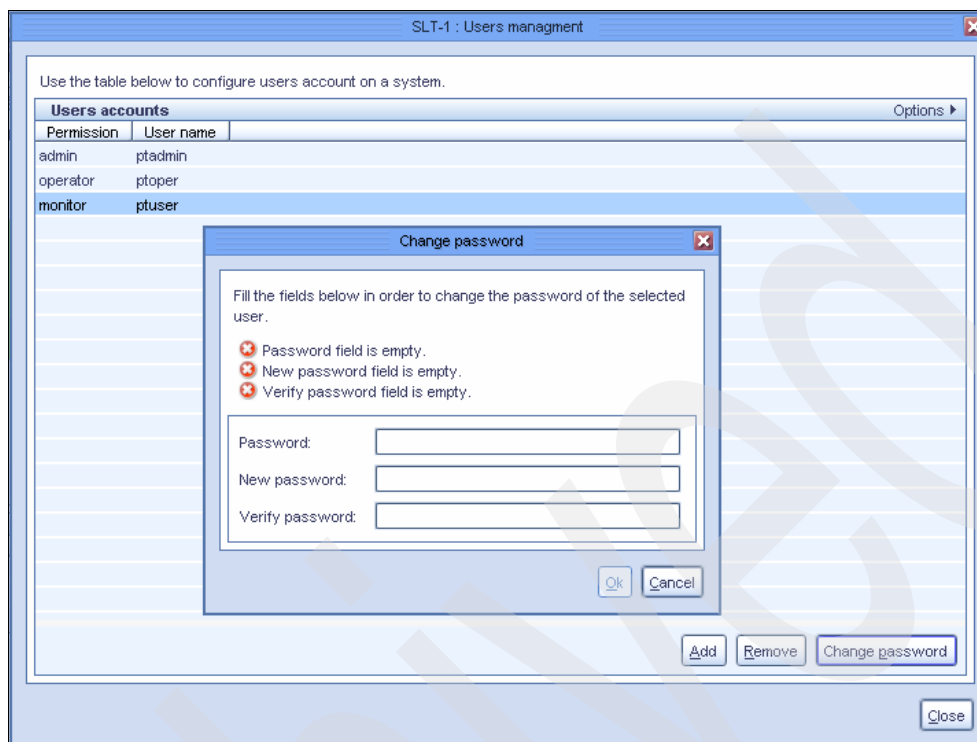

Figure 8-18 Change user password
2. Select a user account and click **Change password**. The Change password dialog is displayed (see Figure 8-18).